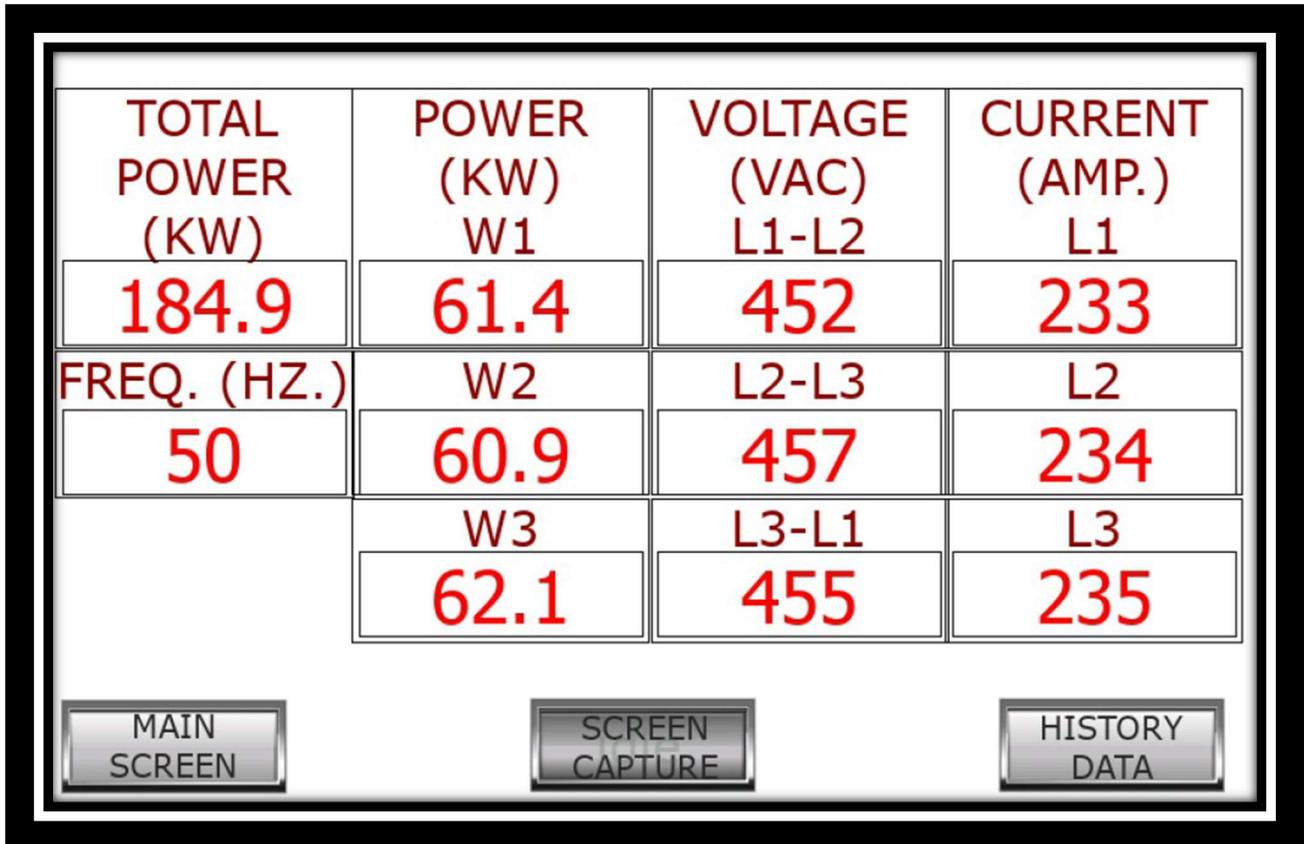

Figure 5 Power Data
- 1) Power data display: Click <POWER DATA> button on main screen and following power data screen will appear (See figure 5),